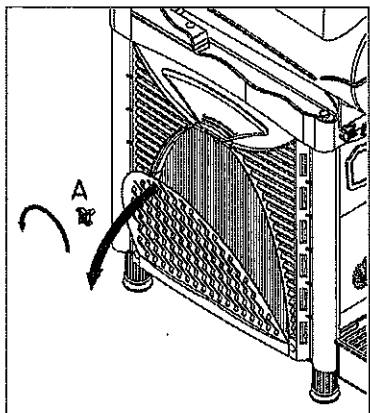

Fig. 26
Remove the left side stainless steel panel unscrewing the fixing knob (A) as shown. (Fig. 26)